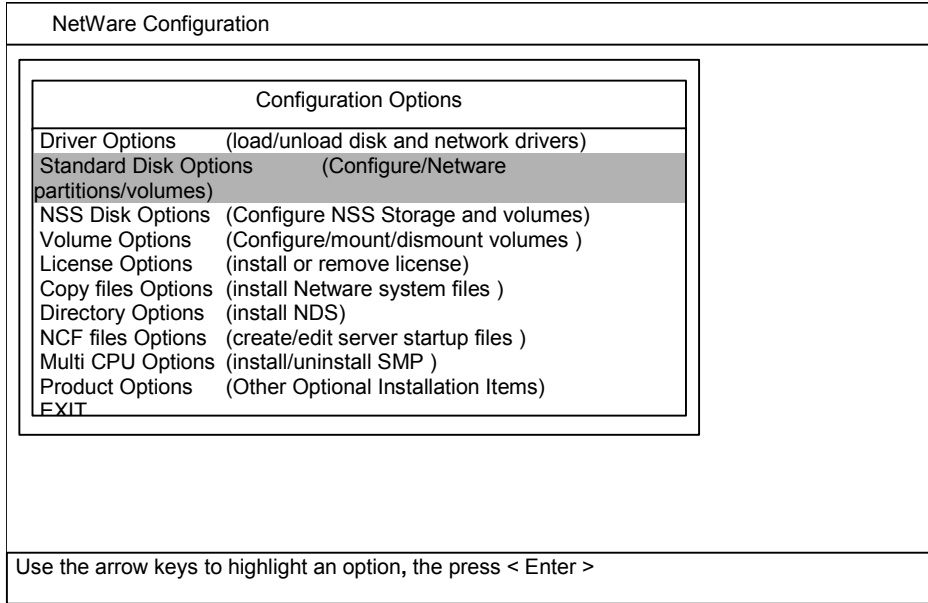

Figure 3.1 Loading the NetWare® Configuration Options Module
1. At the server console, enter **LOAD NWCONFIG** to load the Configuration Options module (see Figure 3.1).